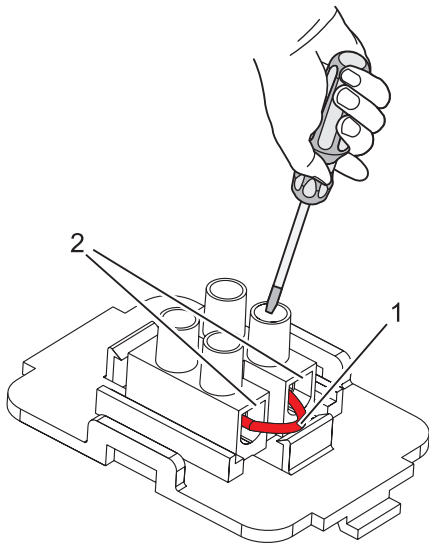

Fig. 46: Taking out the cable bridge
3. ➔ Lose the screws and take out the cable bridge (Fig. 46/1).
4. ➔ Insert the window flip switch cable into the stranded wire hole replacing there the cable bridge (Fig. 46/2) and re-tighten the screws.